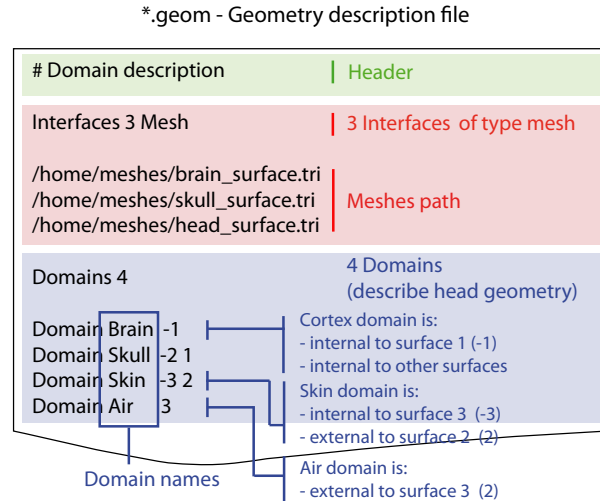
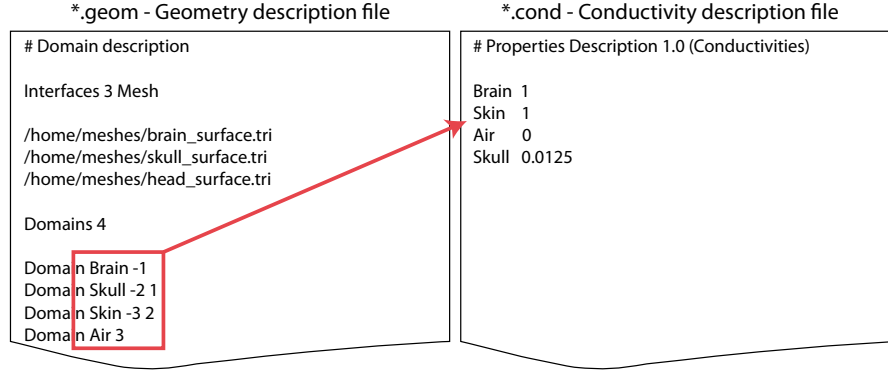

Figure 1: Sample geometry file.
Figure 2: Sample conductivity file and its correspondance with the geometry file.
**OpenMEEG geometrical models** are provided through several files. Note that OpenMEEG considers SI units (i.e. point coordinates should be expressed in meters (m), conductivities in  $S/m$ , etc). The toplevel file (generally ending with the extension `.geom`) assembles various interface descriptions to build *Domains* corresponding to head tissues. Empty lines or lines beginning with `#` are non-significant. The file must start with a special comment line which allows its identification (see example in Figure 1).
The second section describes the head tissues and is introduced by the keyword **Domains** followed by the number of such domains. Each domain is then depicted, one domain per line, by the keyword **Domain** followed by the domain name (which will serve for identification and will also appear in the conductivity description) followed by a list of integers. These integer are the indices of the mesh files (as depicted in previous paragraph). They are affected by a + or - sign depending on whether the domain is outside or inside the corresponding interface (as defined by the outward normal of the interface). See Figure 1 for a detailed example.
A **conductivity file** (generally ending with the extension `.cond`) is a simple ASCII file that contains associations between tissue names and conductivity values. Associations are provided one per line. Empty lines or lines beginning with `#` are non-significant. The file must start with a special comment line which allows its identification. Figure 2 provides an example conductivity file corresponding to the geometry file of Figure 1.